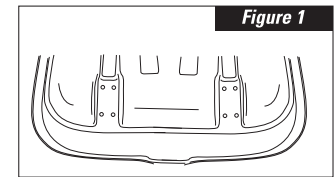

Figure 1
1. Locate the four pre-marked hole locations for each wheel caster at the rear of the box tray (see **Figure 1**).